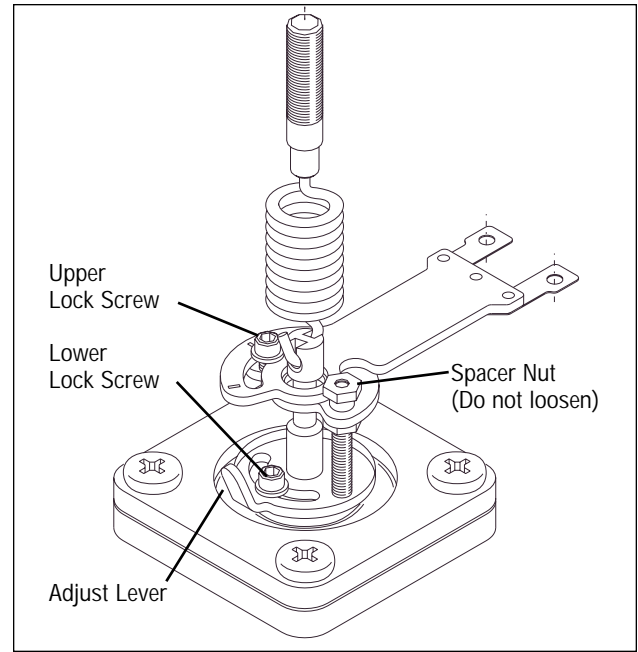

Figure 8: Gain Adjustment
3. Using a 5/64-inch allen wrench, *loosen both upper and lower lock screws* about one half turn. Do not loosen the spacer nut. (See Figure 8.)